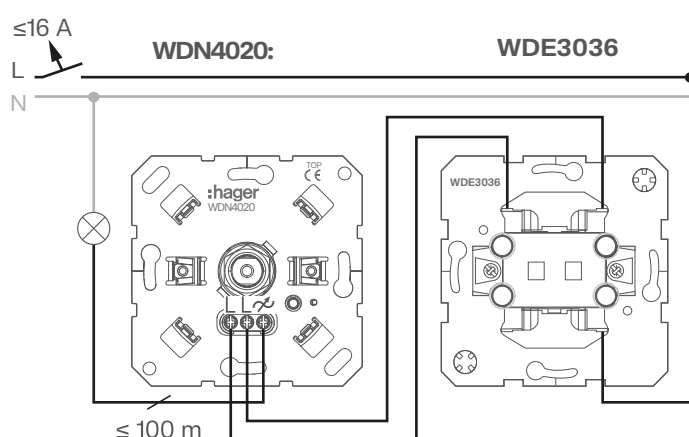

Fig. 5: Connection diagram with change-over switch (optional)
- 2 Optional connection with change-over switch (Fig. 5).